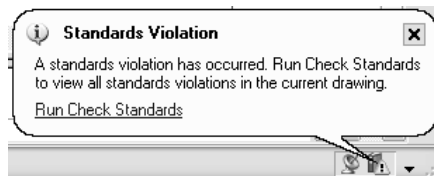

Figure 26-14: The status bar alert of a standards violation.
- ♦ **Display standards status bar alert icon:** Displays an icon on the AutoCAD status bar, as shown in Figure 26-14. The icon has an exclamation point if there is a nonstandard object in the drawing. A balloon appears to notify you that a standards violation has occurred. Click the Run Check Standards text or the icon to open the Check Standards dialog box so that you can fix the problems.